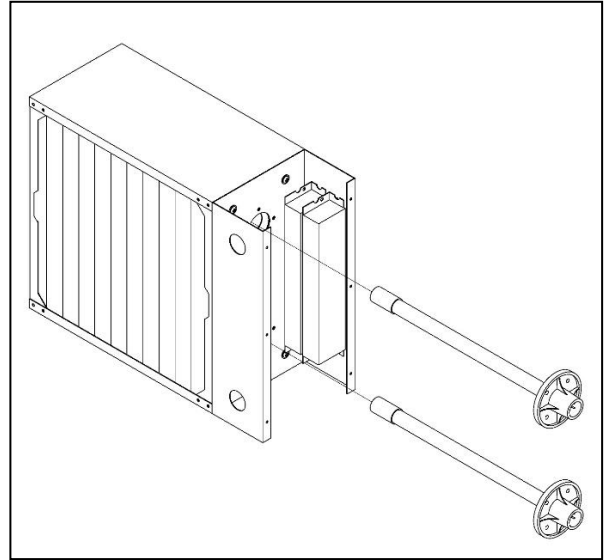

Figure 8
8.) Remove lamps by alternating a quarter turn clockwise and a quarter turn counterclockwise as it is pulled out. This will prevent the lamp from becoming bound up in the catalyst media. See Figure 8.
10.) Replace lamps by alternating a quarter turn clockwise and a quarter turn counterclockwise as it is pushed in. This will prevent the lamp from becoming bound up in the catalyst media. See Figure 8.